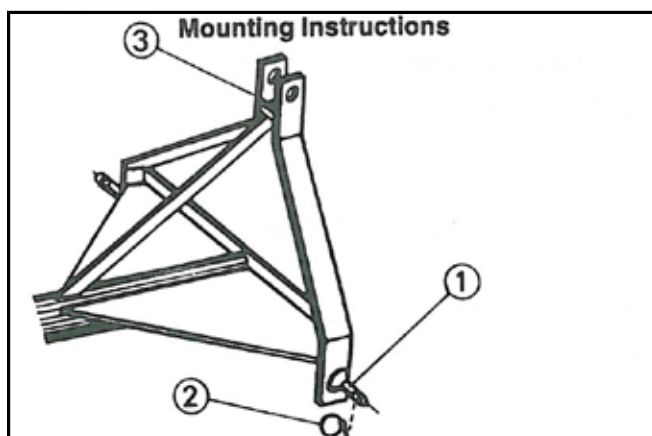

FIGURE 1
Attach the tractor lift arm to A-frame using lift pins (1), and secure with lynch pins (2) (not included). Attach the top link to the A-Frame upright and adjust top link to achieve the desired angle. (Figure 1)
Level the main frame (3) by adjusting lift and top links. Position sway blocks to eliminate side or install sway braces if required. (Figure 1)